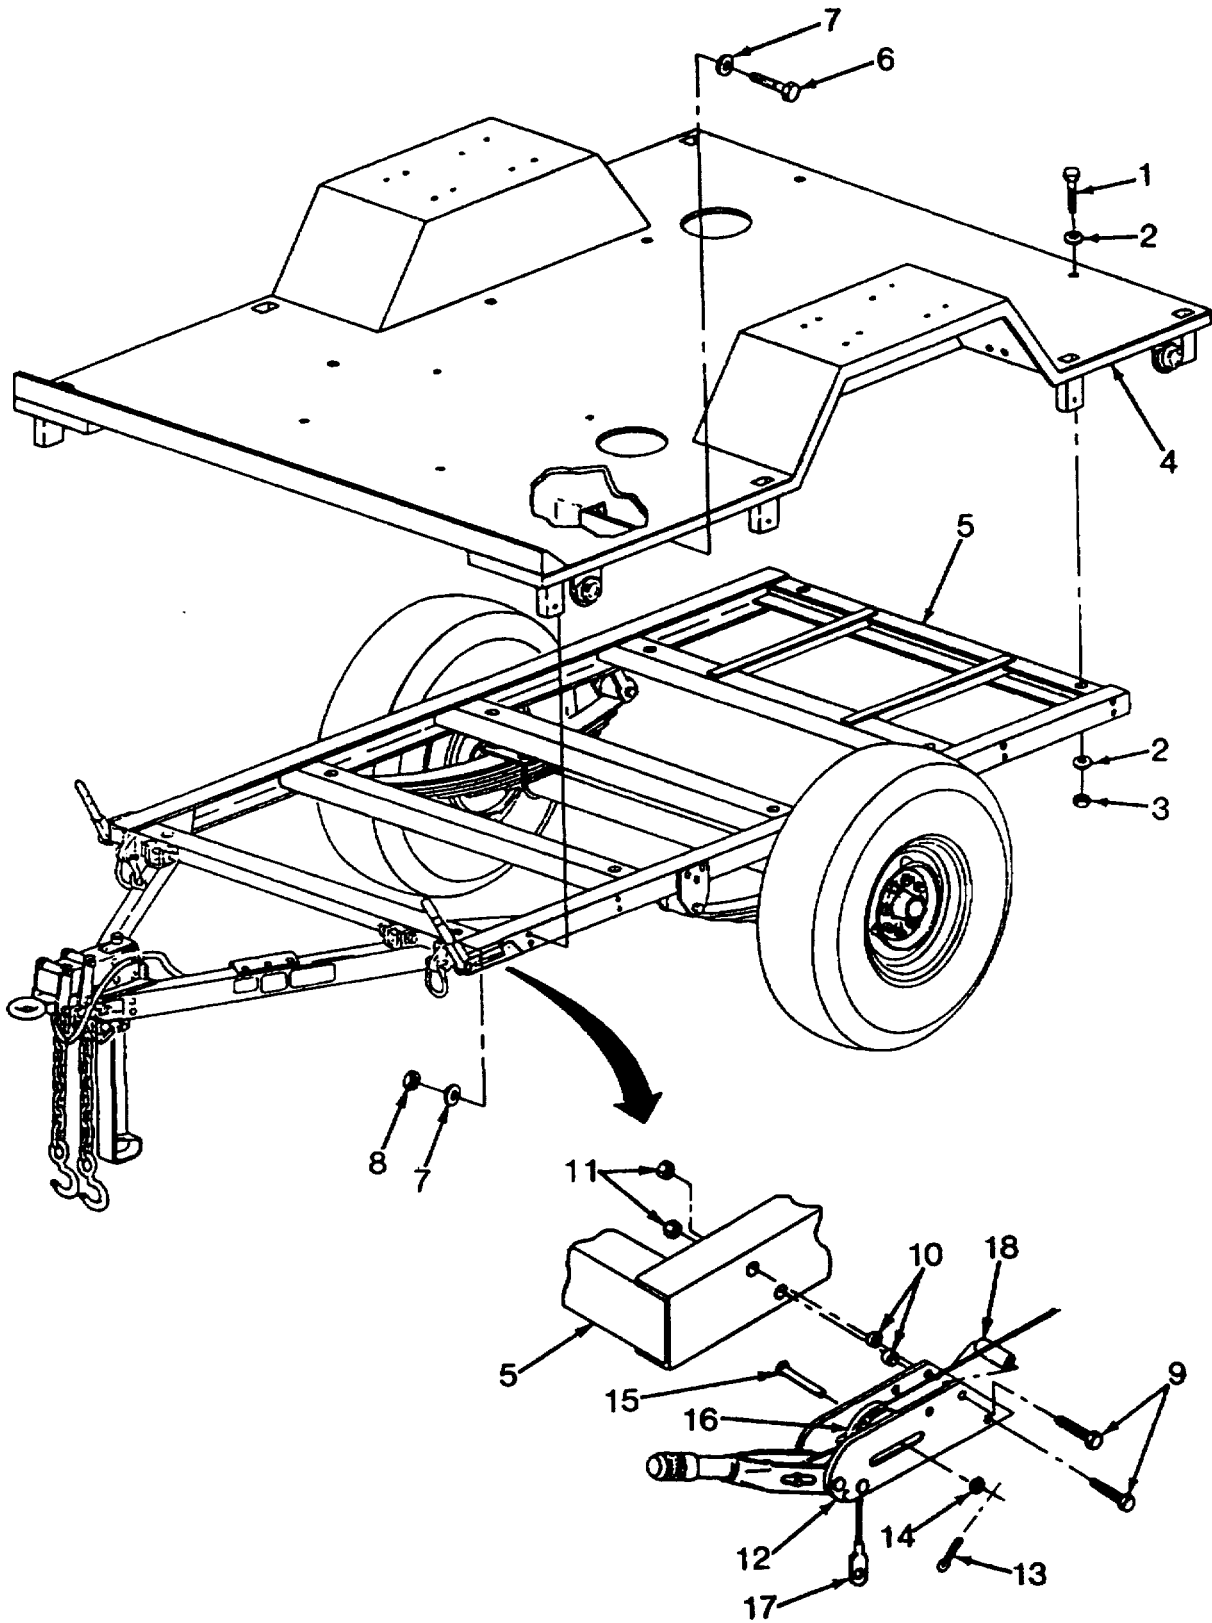

Figure 5-6. Fender and Bed Replacement on AN/MJQ-33.
a. **Removal.** (See figure 5-6). The body of the modified AN/MJQ-33 trailer consists of a single weldment that includes both fender and the bed of the trailer.
- (1) Remove tarpaulin (paragraph 3-6a(1)).
- (2) Remove tarpaulin support and bow assembly (paragraph 3-6b(1)).
- (3) Remove accessory box (paragraph 4-25a).
- (4) Remove switchbox (paragraph 4-19c(1)).
- (5) Remove generator sets (paragraph 5-5a).
- (6) Remove 10 screws (1, figure 5-6), 20 flat washers (2), and 10 nuts (3) securing trailer body (4) to trailer chassis (5).
- (7) Remove 16 screws (6), 32 flat washers (7), and 16 nuts (8) securing trailer body (4) to trailer chassis (5).
- (8) Remove two screws (9), spacers (10), and nuts (11) and remove roadside handbrake lever assembly (12) from trailer chassis (5).
- (9) Remove cotter pin (13), washer (14), shaft (15), and pulley (16) from handbrake lever assembly (12).
- (10) Working under trailer, pull handbrake cable clevis (17) back through the holes in the front two braces on the trailer body.
- (11) Repeat steps (8) thru (10) to remove and disassemble curbside handbrake lever assembly.
- (1) Using suitable lifting equipment with a minimum lifting capacity of 500 lb, lift trailer body (4, figure 5-6) on trailer chassis (5) and align mounting holes.
- (2) Insert 10 screws (1) with flat washers (2) through trailer bed and through trailer chassis frame rails.
- (3) Working under trailer, install one flat washer (2) and nut (3) on each screw (1).
- (4) Insert 16 screws (6) with flat washers (7) through trailer body braces into trailer chassis.
- (5) Working under trailer, install one flat washer (7) and nut (8) on each screw (6). Tighten hardware to secure trailer body to trailer chassis.
- (6) Feed roadside handbrake cable clevis (17) forward through holes in front two braces on trailer body.
- (7) Wrap handbrake cable around pulley (16), position pulley in handbrake lever assembly (12) and insert shaft (15).
- (8) Install washer (14) and cotter pin (13) to secure shaft (15).
- (9) Assemble handbrake lever assembly (12) using two screws (9) and spacers (10). Make certain top screw (9) goes through spacer (18) and bottom screw (9) goes through handbrake cable clevis.
- (10) Position assembled handbrake lever assembly (12) on trailer chassis (5) and install two nuts (11). Tighten hardware.
- (11) Repeat steps (6) thru (10) to assemble and install curbside handbrake lever assembly.